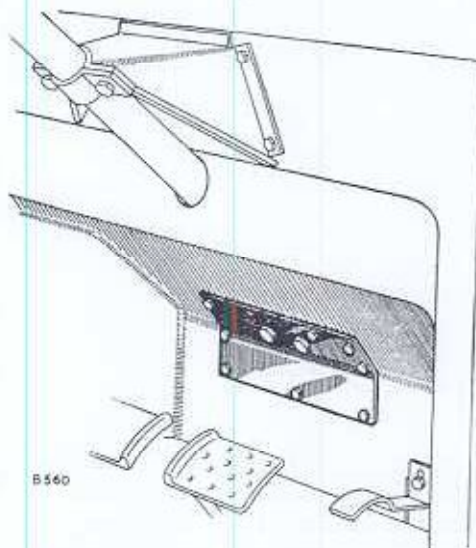

Fig. 1. Fitting dash strengthening plate.
2. Offer up the strengthening plate Part No. 302536 on the driver's side of the dash panel as shown at Fig. 1 in such a position that it gives maximum support at the steering box fixings. Holding the plate in position, drill through the two  $7/16$  in. (11,1 mm.) steering box securing holes.